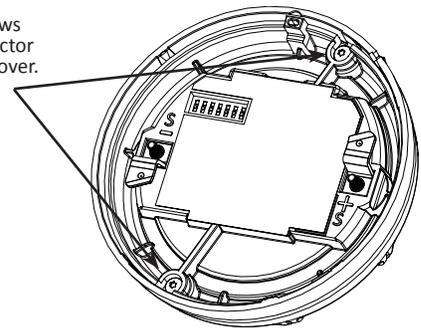

FIGURE 4: Removing Detector Cover (PAD100-PD only)
- Remove cover from detector by removing the two screws (T10) on back of detector (FIGURE 4).